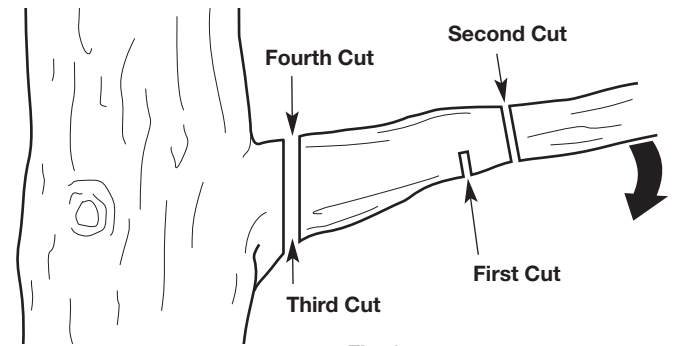

Fig. 8
2. Make the first cut approximately 6 inches (15 cm) from the tree trunk. Cut upward, from the underside of the limb. Use the top of the guide bar to make this cut. Cut a third of the way through the diameter of the limb (Fig. 8).
3. Make the second cut 2 - 4 inches (5 - 10 cm) farther out on the limb. Cut downward, from the top of the limb. Use the bottom of the guide bar to make this cut. Cut completely through the limb (Fig. 8).
4. Make the third cut as close to the tree trunk as possible. Cut upward, from the underside of the limb stub. Use the top of the guide bar to make this cut. Cut a third of the way through the diameter of the limb (Fig. 8).
5. Make the fourth cut directly above the third cut. Cut downward, from the top of the limb stub. Use the bottom of the guide bar to make this cut. Cut completely through the limb stub to meet the third cut (Fig. 8). This will remove the limb stub.